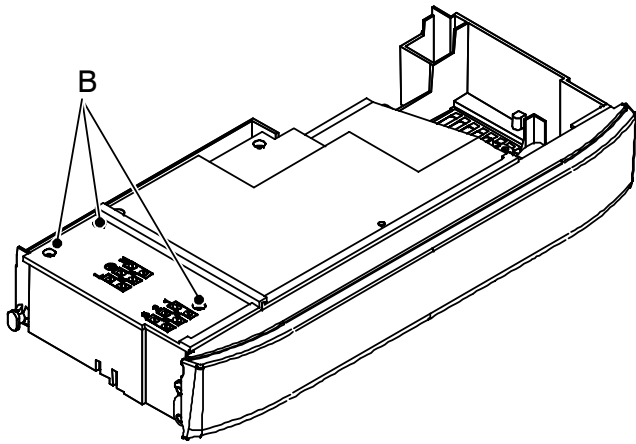

Fig. 7.6
- 4 Loosen the screws B and remove the service panel (Fig. 7.6).